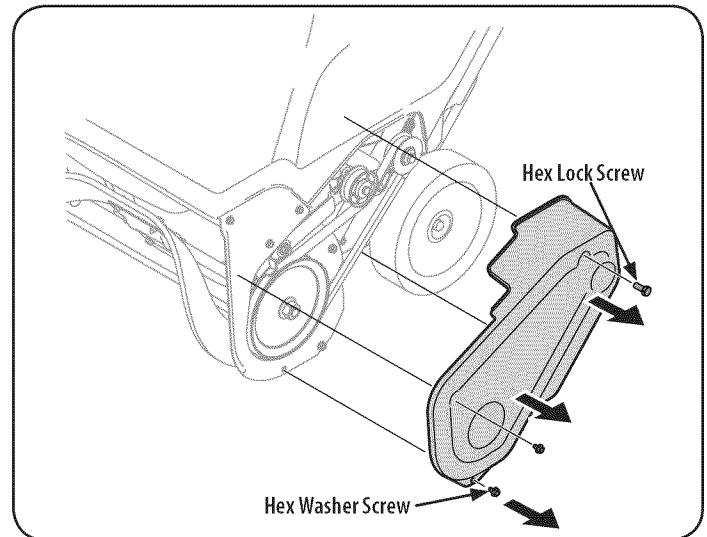

Figure 22
4. Remove the belt cover by removing the two hex washer screws and one hex lock screw that secure it to the frame. See Figure 22.